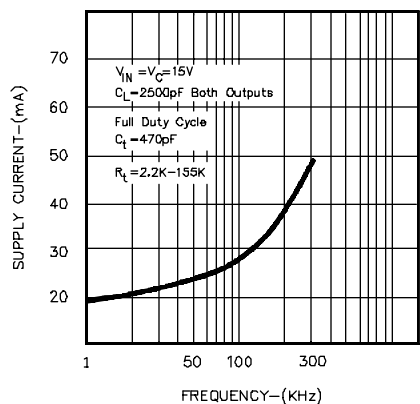

FIGURE 14.
2. If more dead time is required, select a larger value of R_D using Figure 14 as a guide. At 40 KHz dead time increases by 300 ns/ Ω .